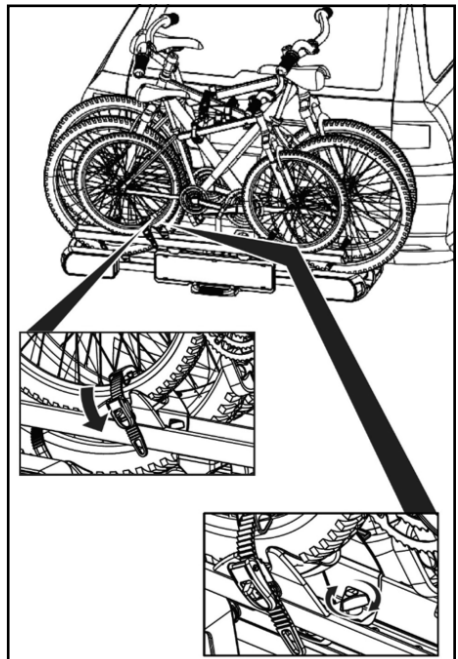

Figure 9: Fastening the third bicycle
- Repeat the steps shown in Figures 9 to 12 if the attachment is loose.